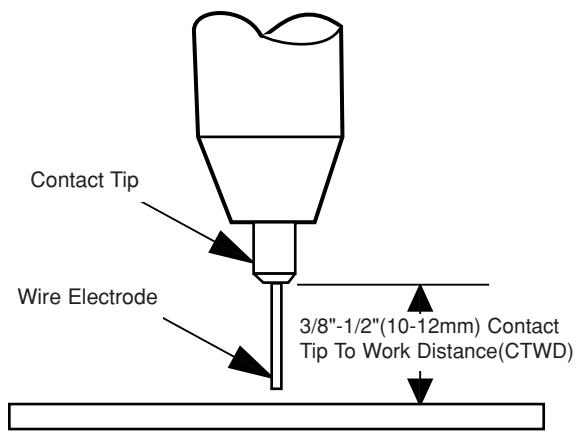

Figure B.6
13. Cut the wire off 3/8" – 1/2" (10 – 12 mm) from the end of the tip. The WELD-PAK 175HD is now ready to weld. (Refer to figure B.6)